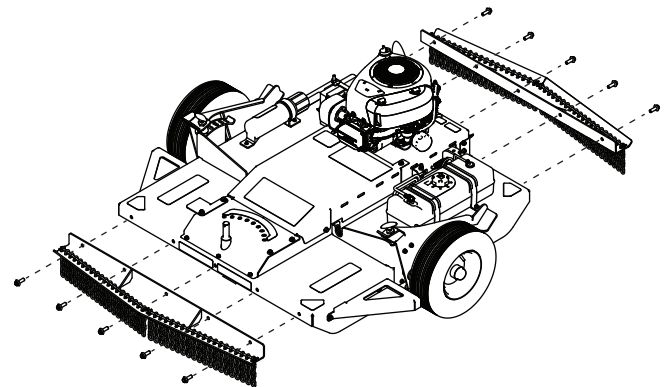

Figure 4
6. Using the supplied M12 nuts and bolts (quantity 10), install front and rear debris guards and deflector to mower deck. Torque bolts to 70 ft-lbs (95 Nm). *See Figures 4 & 5*